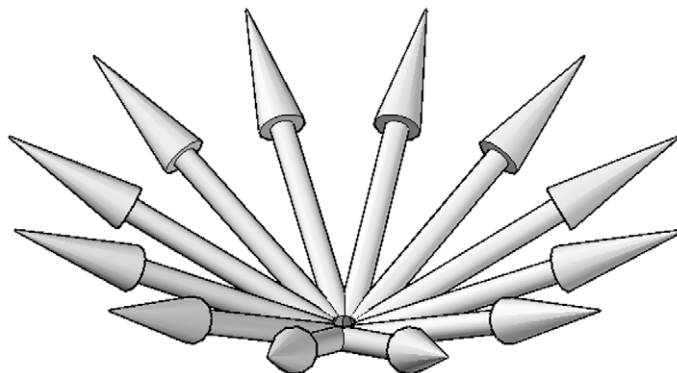

Fig. 14.15 Third example – a **3D Polar Array**
Third example – a Polar Array (Fig. 14.15)
3. Place the array in the **3D Navigate/SW Isometric** view and shade to **View/Visual Styles/Shades of Gray**. The result is shown in Fig. 14.15.